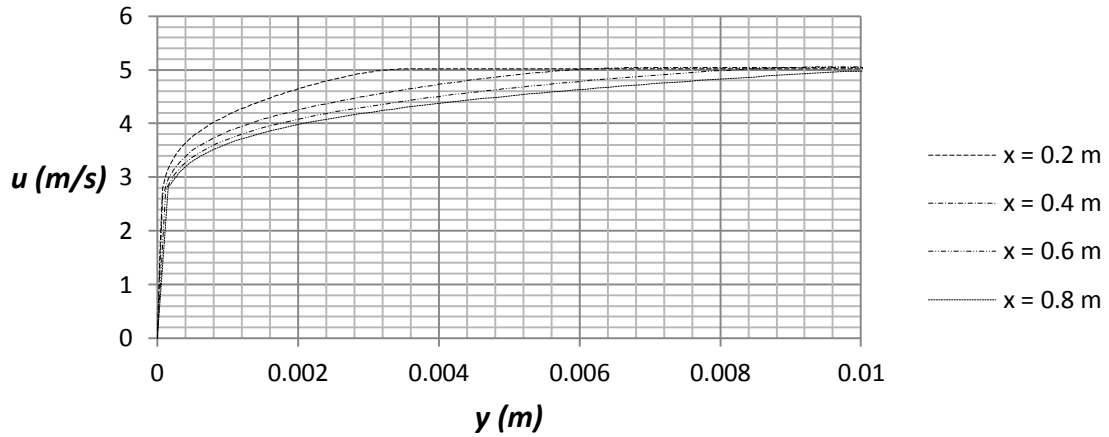

Figure 2.30a) Flow Simulation comparison between turbulent boundary layers at $Re_x = 10^6 - 4.1 \cdot 10^6$
32. Place the file “xy-plot figure 2.30a)” into the **Local Disk (C:)/Program Files /SolidWorks Corp/SolidWorks Flow Simulation/lang/english/template/XY-Plots** folder to make it available in the **Template** list. Repeat step 24 and choose the sketch **x = 0.2, 0.4, 0.6, 0.8 m** and check the box for **Velocity (X)**. Rename the xy-plot to **Turbulent Velocity Boundary Layer**. An Excel file will open with a graph of the streamwise velocity component versus the wall normal coordinate, see figure 2.30a). We see that the boundary layer thickness is much higher than the corresponding laminar flow case. This is related to higher Reynolds number at the same streamwise positions as in the laminar case. The higher Reynolds numbers are due to the selection of water as the fluid instead of air that has a much higher value of kinematic viscosity than water.
As an example, the turbulent boundary layer thickness from figure 2.30a) is 3.55 mm at $x = 0.2$ m which can be compared with a value of 4.44 mm from equation (4), see table 2.5.
- 2.6 Determine the displacement thickness, momentum thickness and shape factor for the turbulent boundary layers in figure 2.30a) and determine the percent differences as compared with empirical data.